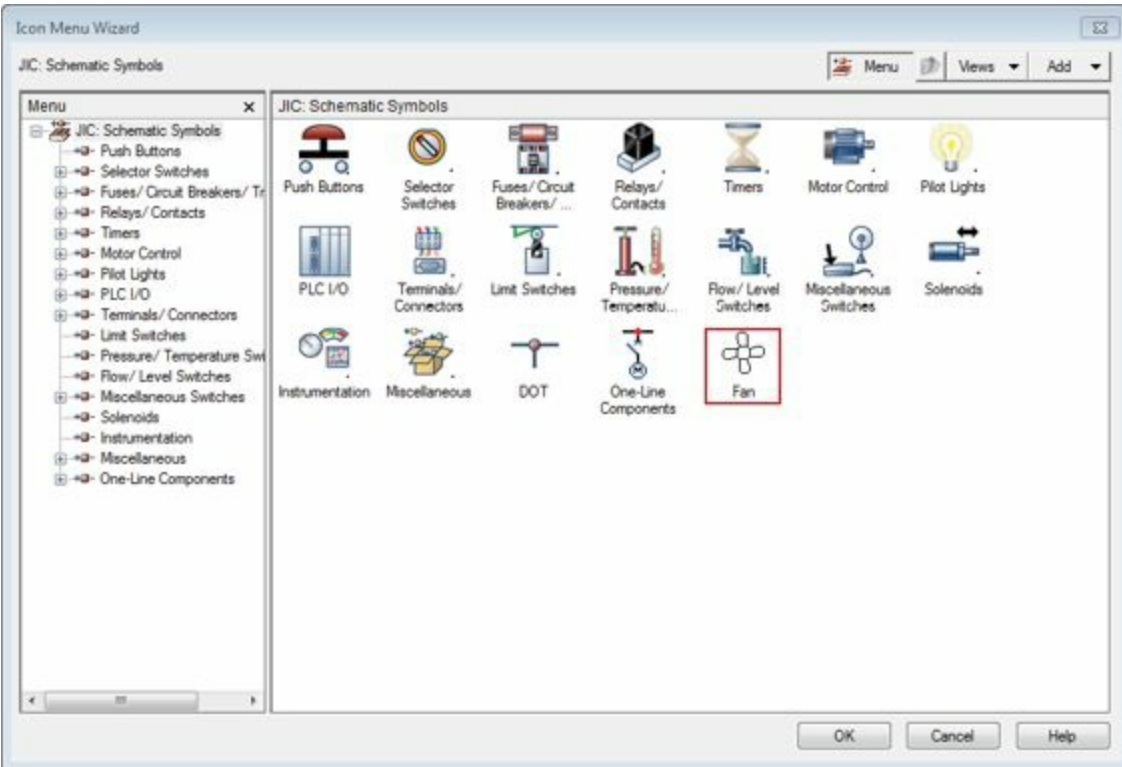

Figure-58. Icon added
- Click on the **OK** button from the **Add Icon - Component** dialog box. The Icon will be added in the **Icon Menu Wizard** dialog box; refer to Figure-58.